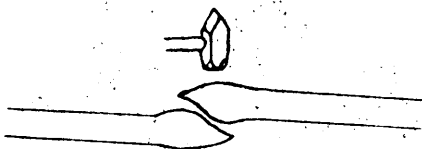

Figure 9.
8. Place in position on anvil. (Figure 9). Scarfs should be lapped so that the point of one scarf will meet the heel of the other.
10. Strike with medium blows. The first blow should be in the center to force any scale to the outside. (Figure 9). If the irons do not stick together in the first blow or two, it is useless to continue hammering. If it doesn't stick, re-shape the scarfs, reheat and add flux as before.